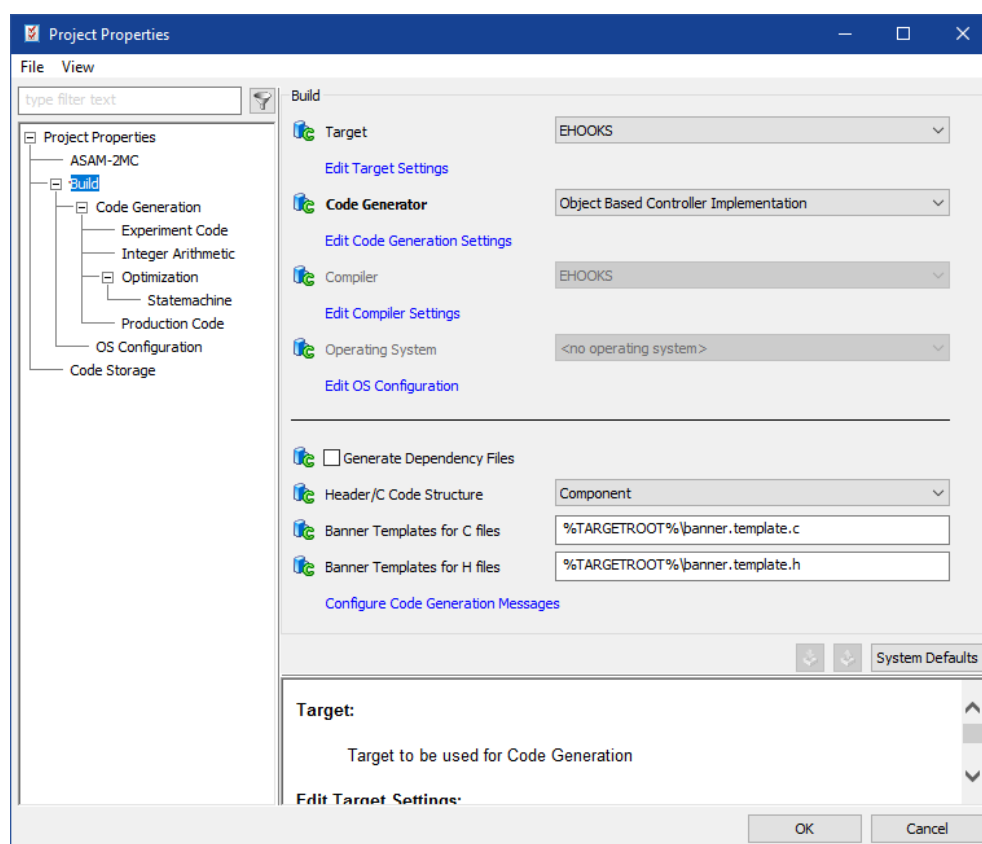

Figure 4.1: Configuring a project to use an EHOOKS target
3. Go to the "Build" node and select EHOOKS as the target for the build as shown in Figure 4.1.